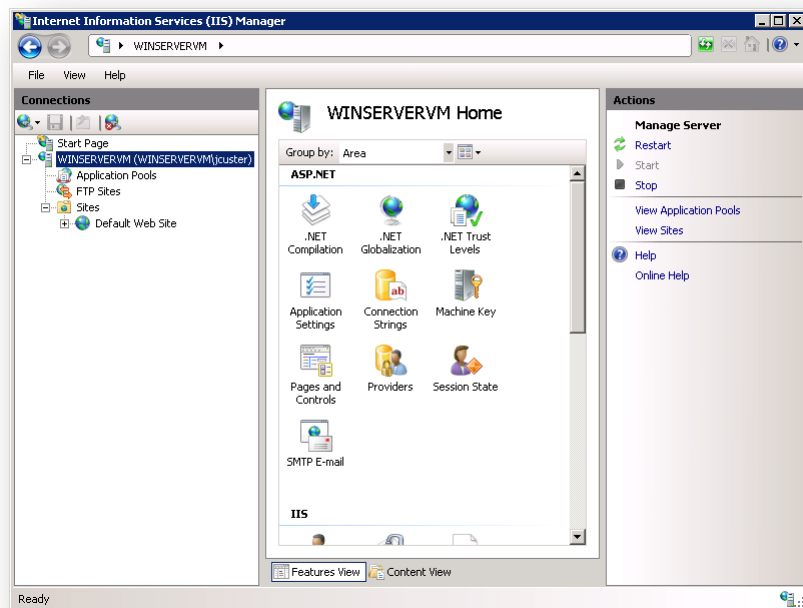

Figure 86 – Internet Information Services (IIS) Manager
17. Verify that the Properties window resembles Figure 86, then click “Apply” to accept the changes.